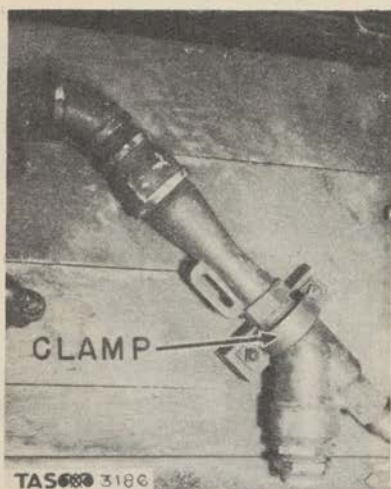

Figure 119. Clamp Holding Injector Assembly to Working Platform.
e. Injector. (See figure 119.) The nozzle of the injector assembly will eventually become enlarged by the sand blast effect of suspensions being forced through under high pressure. A nozzle is replaced as follows:
(1) Remove the clamp holding the injector assembly to the working platform. (Fig. 119)